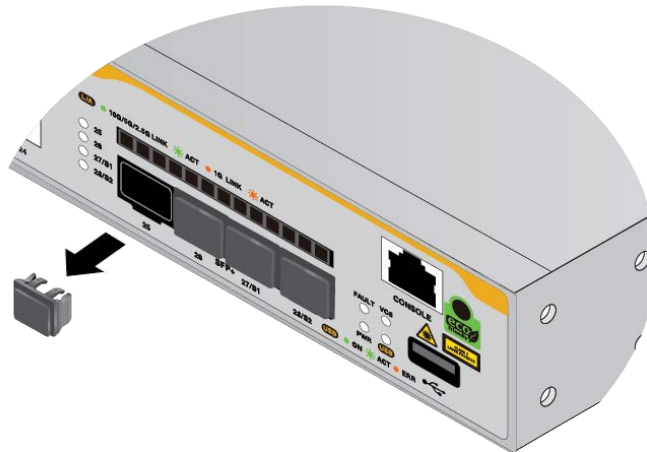

Figure 66. Removing the Dust Plug from an SFP+ Port
1. If the transceiver port has a dust plug, remove it. Refer to Figure 66.